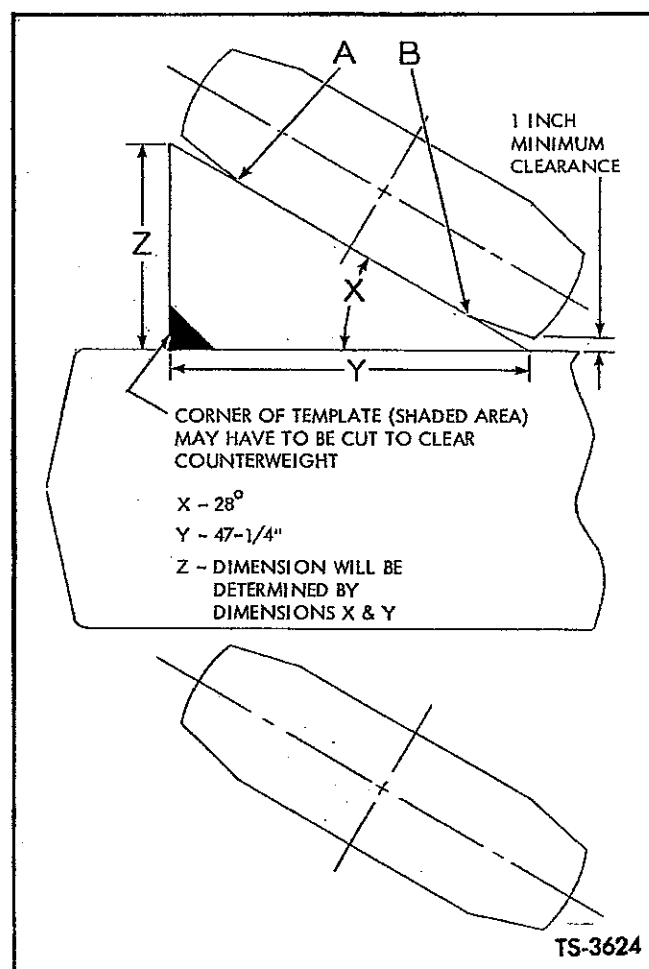

Fig. 40. Check Steer Axle Stops
3. Continue to hold wheels in full left turn position and insert template between tire and machine frame as shown in Figure 40.